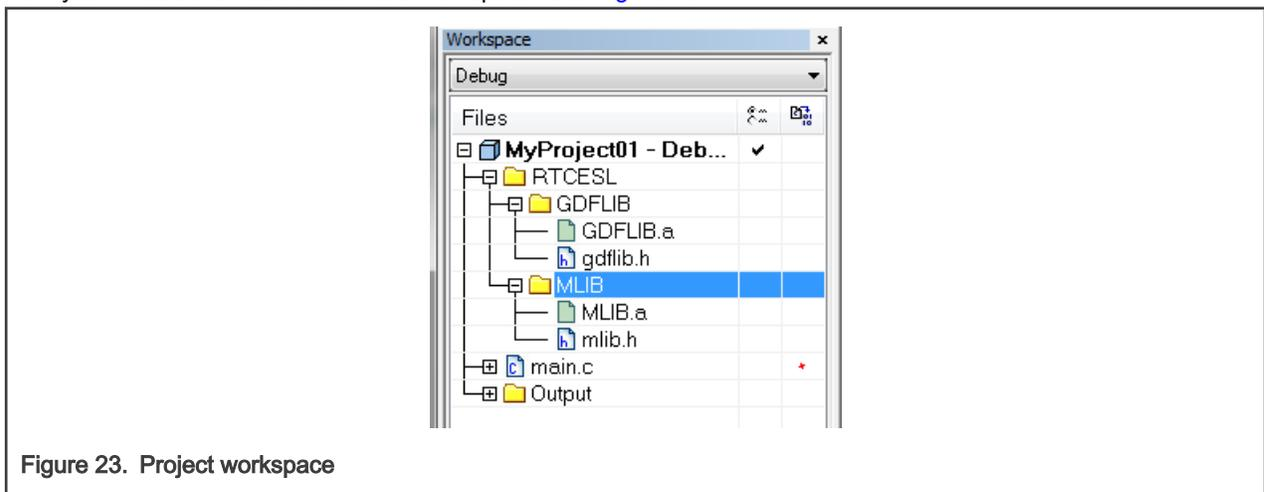

Figure 23. Project workspace
4. Click on the newly created node MLIB, and go to the main menu Project > Add Files... See Figure 23.
11. Now you will see the files added in the workspace. See Figure 23.